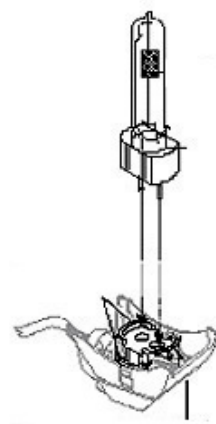

Figure 1
4. Insert lamp base into socket assembly. (**Figure 1**)